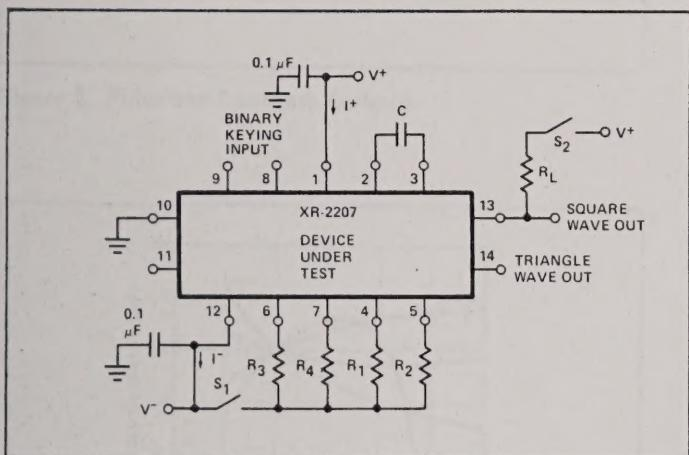

Figure 1. Test Circuit For Split Supply Operation
**Test Conditions:** Test Circuit of Figure 1,  $V^+ = V^- = 6V$ ,  $T_A = +25^\circ C$ ,  $C = 5000 \text{ pF}$ ,  $R_1 = R_2 = R_3 = R_4 = 20 \text{ k}\Omega$ ,  $R_L = 4.7 \text{ k}\Omega$ , Binary Inputs grounded,  $S_1$  and  $S_2$  closed unless otherwise specified.
Figure 1 is the recommended circuit connection for split supply operation. The frequency of operation is determined by the timing capacitor, C, and the activated timing resistors ( $R_1$  through  $R_4$ ). The timing resistors are activated by the logic signals at the binary keying inputs (pins 8 and 9), as shown in the logic table (Table 1). If a single timing resistor is activated, the frequency is  $1/RC$ . Otherwise, the frequency is either  $1/(R_1||R_2)C$  or  $1/(R_3||R_4)C$ .